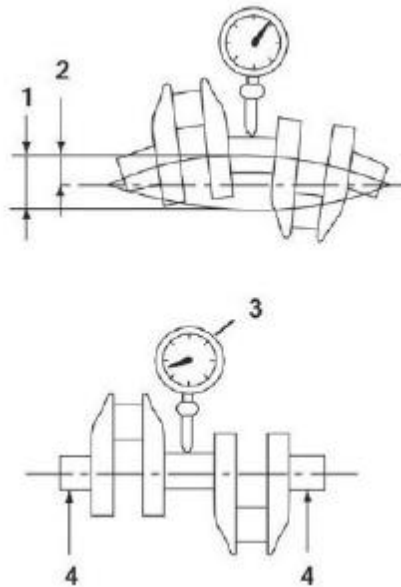
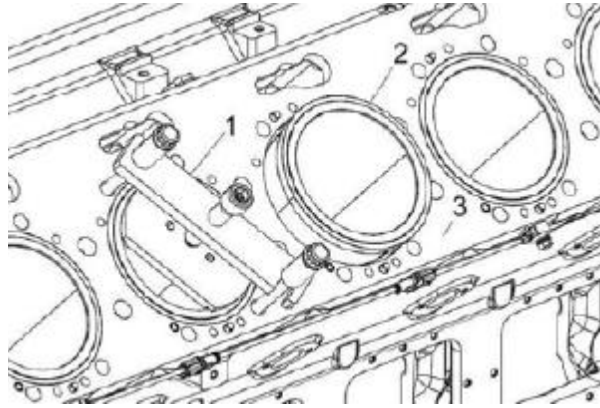

Figure 102.
Figure 107
1. Place the crankshaft end journals (Figure 102, Item 4) on V-blocks.
2. Place a dial indicator (Figure 102, Item 3) on a center main bearing surface.
5. Install the cylinder liner installer (Figure 107, Item 1) on the engine block and nest the liner (Figure 102, Item 2) using the special tool.